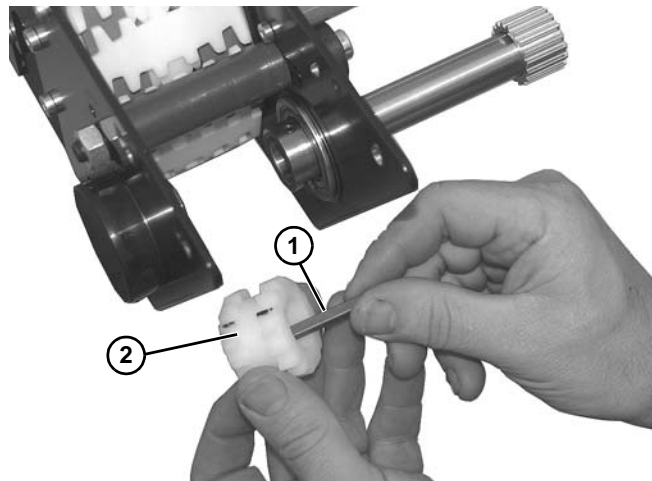

Figure 171
17. Remove key (**Figure 171, item 1**) from sprocket (**Figure 171, item 2**).